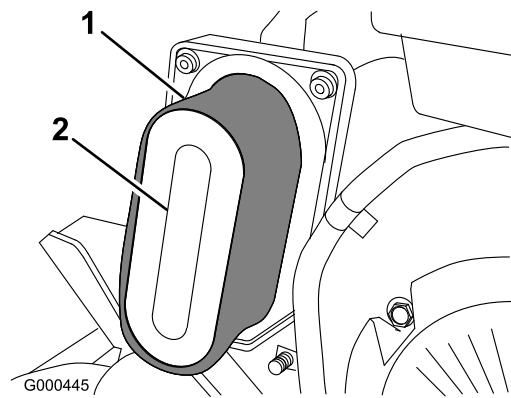

Figure 24
4. If the foam element is dirty, remove it from the paper element (Figure 24) and clean thoroughly, as follows: